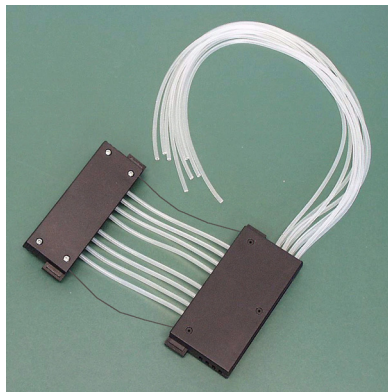

Figure 5-41. Ensuring the tubing does not get trapped
13. Ensure that you do not get the tubing trapped or bent between the bottom and upper cover of the upper part of the dispensing cassette (Figure 5-41).